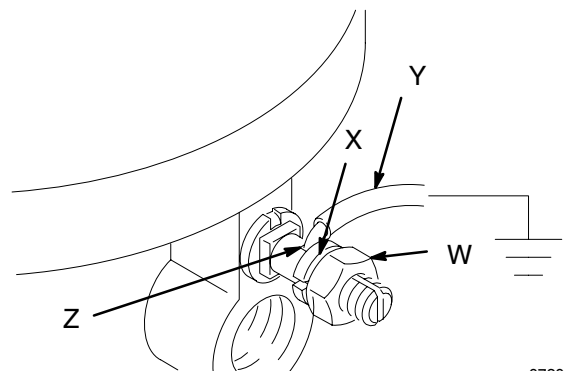

Fig. 1
- *Pump:* use a ground wire and clamp to connect the sprayer to a true earth ground. See Fig. 1.
To ground the pump, loosen the grounding lug locknut (W) and washer (X). Insert one end of a 12 ga (1.5 mm²) minimum ground wire (Y) into the slot in the lug (Z) and tighten the locknut securely. See Fig. 1. Connect the other end of the wire to a true earth ground. Order Part No. 222011, grounding wire and clamp.